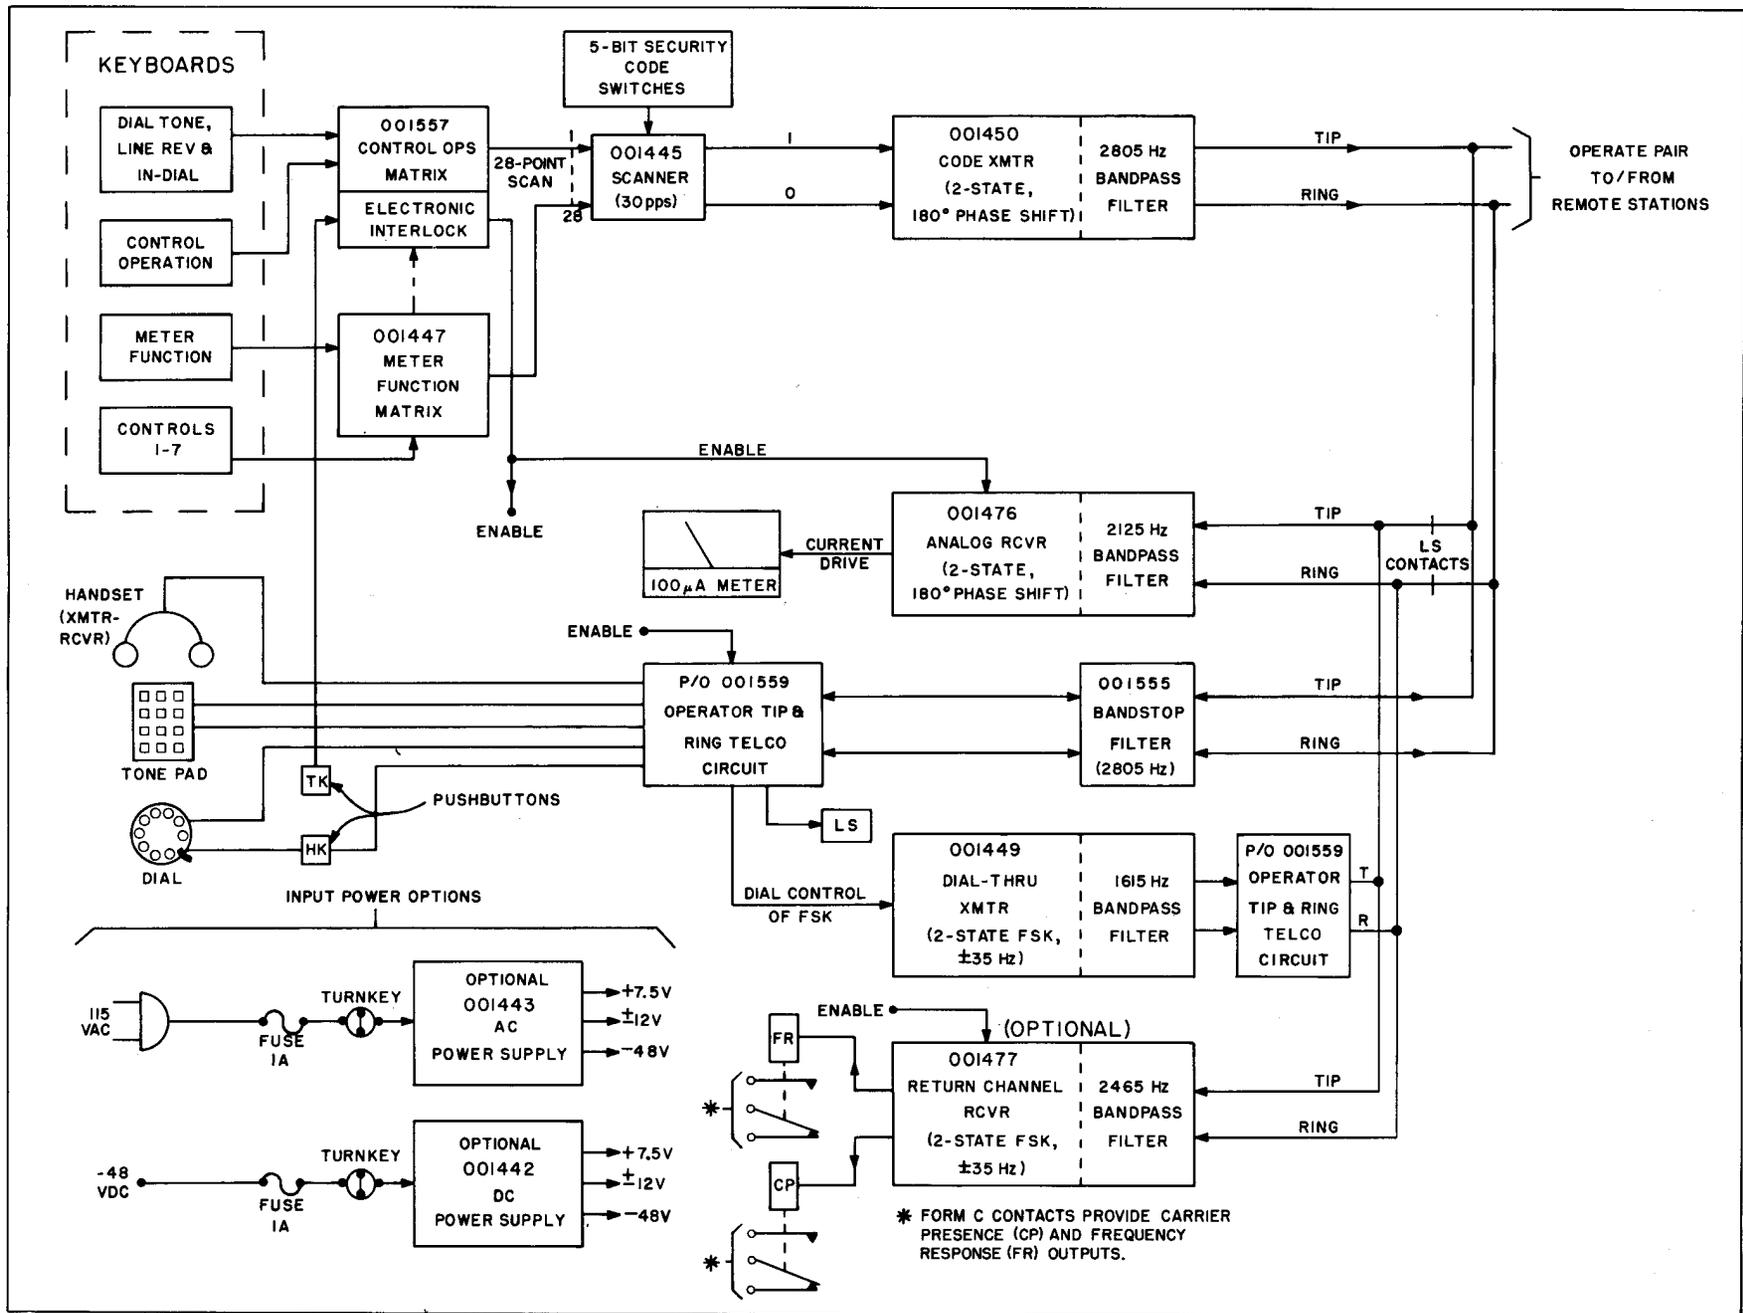

Figure 2 - Block Diagram of 001480 Master Station
2.02 MASTER STATION - Figure 1A is a rear view of the master station with its cover off, exposing the arrangement of the cards within. A retaining bar, which extends across the front of the cards and is designed to hold them in place, has also been removed to reveal the cards in their entirety. Figure 1B is a front view of the master station showing the functional grouping of the console's controls. Figure 2 is the corresponding block diagram of the master station, and the basis of the following description.